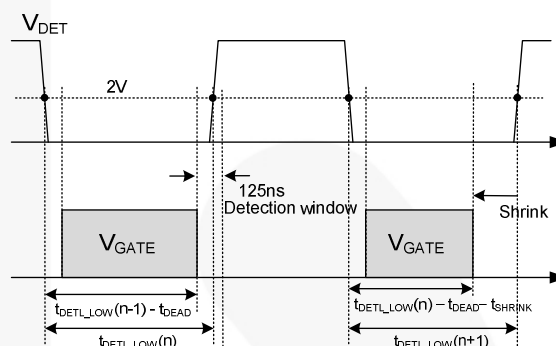

Figure 12. Gate Shrink by Minimum Dead Time Detection Window
- When insufficient dead time is detected in the previous switching cycle. When the DETL goes HIGH within 125ns of detection window after SR gate is turned off, the SR gate drive signal in the next switching cycle is reduced by $t_{\text{SHRINK-DT}}$ (about 1.25 μs) to increase the dead time, as shown in Figure 12.